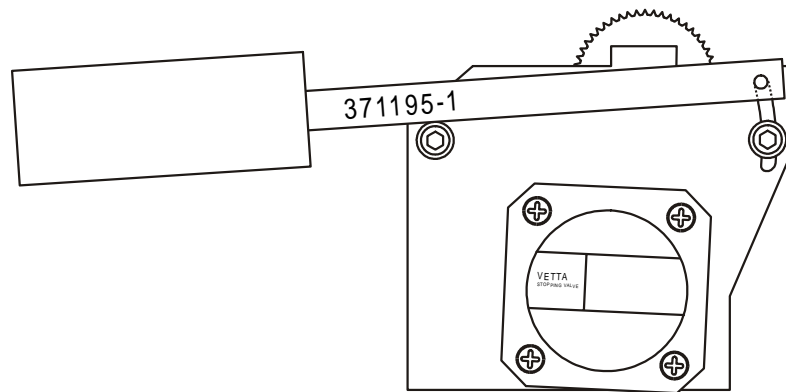

Figure 5-3 Tray Motor Assembly with Tool Installed
4. Loosen and lower the tray drive assembly (P/N 527132-x) (see Figure 5-3). Disconnect the tray wiring connector near the base of the mini VIDAS.